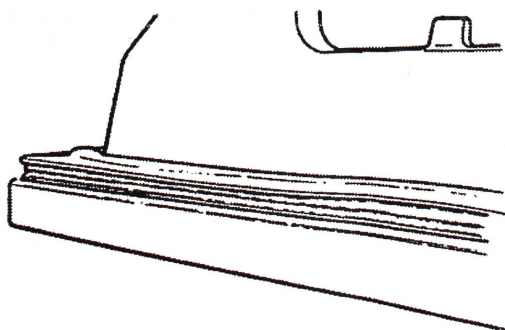

FIGURE 9
5. Roll gasket back in place and be sure it has a smooth outer edge. (See Figure 9.)